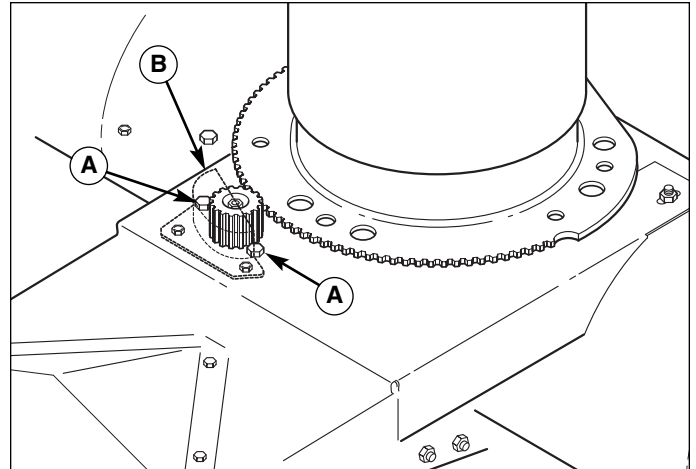

Figure 18. Discharge Chute Motor Adjustment
3. Remove the plastic cover (B, Figure 18) and loosen the three taptite screws (A) securing the electric spout rotator motor.
5. Adjust the motor so that it meshes with the discharge chute ring gear and tighten the adjustment screws (A, Figure 18).
1. Remove the plastic cover (B, Figure 18) and loosen the three taptite screws (A) securing the electric spout rotator motor.